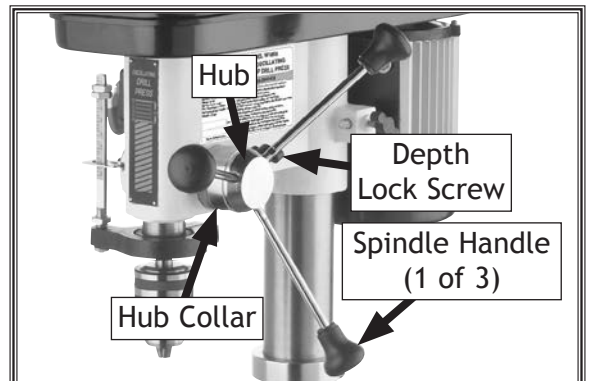

Figure 30. Spindle handles and depth lock knob installed.
31. Thread the spindle handles into the hub, as shown in **Figure 30**.
33. Rotate the hub collar clockwise as far as it will go, then thread depth lock screw into hub, as shown in **Figure 30**.